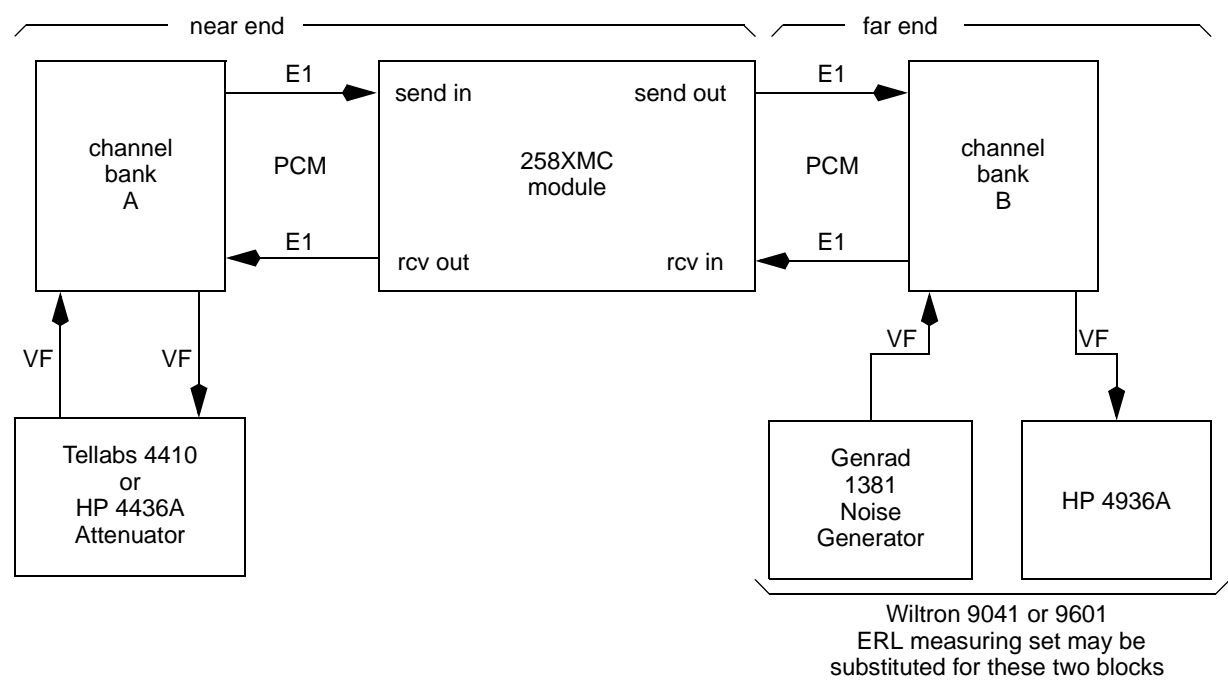

Figure 10-1 Echo cancellation performance test
- 10.5 To ensure that the 258XMC module has been installed in the network properly, perform the following test. With the module connected as shown in Figure 10-1, 35dB of echo cancellation should be obtained.